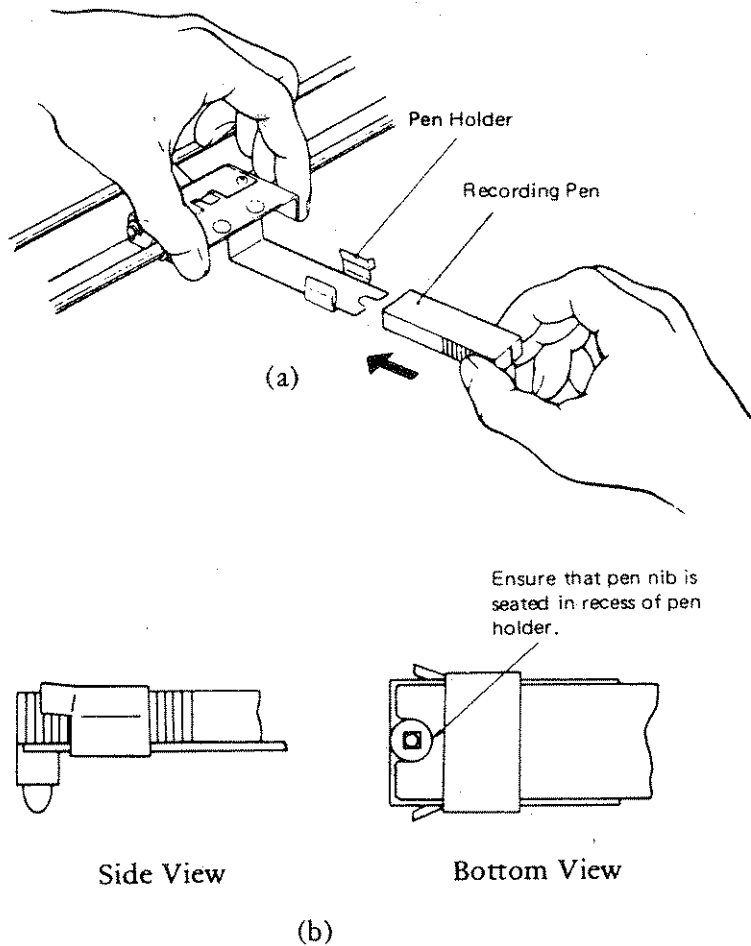

Fig. 5.4 Installing Pen, 1241-2
- B. Refer to Fig. 5.4 for installation of Model 1241-2 pens. Ensure that pen nib is into recess of pen holder.